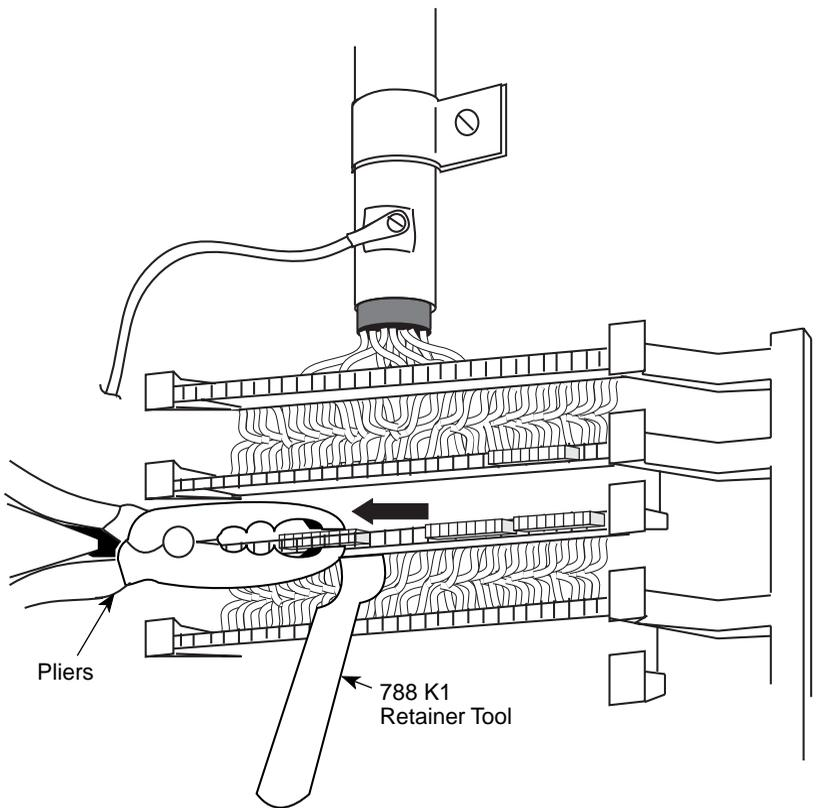

Figure 3-40. Removing the Connecting Block
- ▶ **2. Place a 788K1 retainer tool against the conductor pairs beneath the connecting block to be removed. See Figure 3-40.**
- ▶ **3. Use pliers to grip the connecting block in the center. See Figure 3-40.**